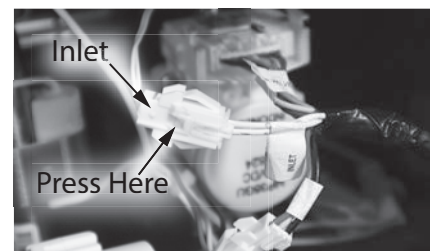

Figure 52 - Inlet harness disconnect instructions
- 22** To disconnect the "INLET" harness, reference Figure 52.